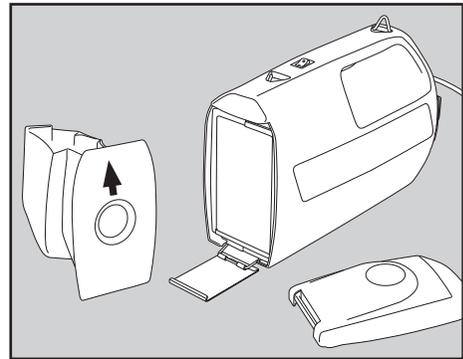

Fig. 17
- Install a new bag with the arrow on the cardboard pointing to the top of the vacuum (Fig. 17).